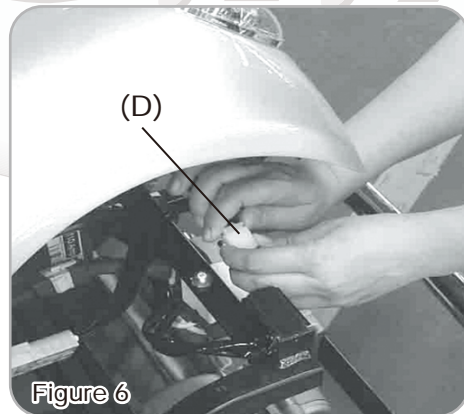

Figure 6
And unplug (D) connections inside. (See Fig. 6)